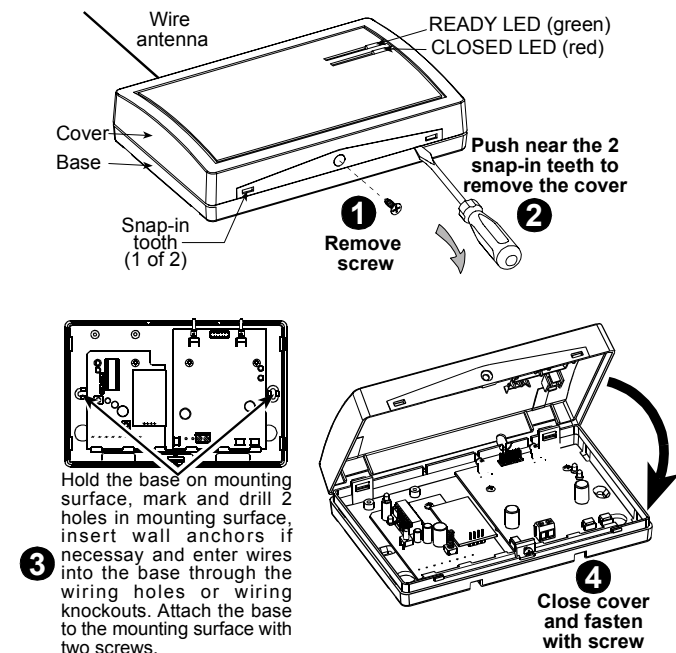

Figure 5 - Control Unit Mounting
- A. Remove Control Unit cover (see figure 5 steps 1 & 2).
### 5.2 Control Unit Installation (see figure 5)
Before installation, disconnect the power that was connected to the Control Unit during the enrolling process. Install the Control Unit as shown in figure 5, step 3. at height of at least 1.2m.
Carefully close the front panel of the control panel, straighten the antenna wire and tighten the front panel with the screw (see figure 5).